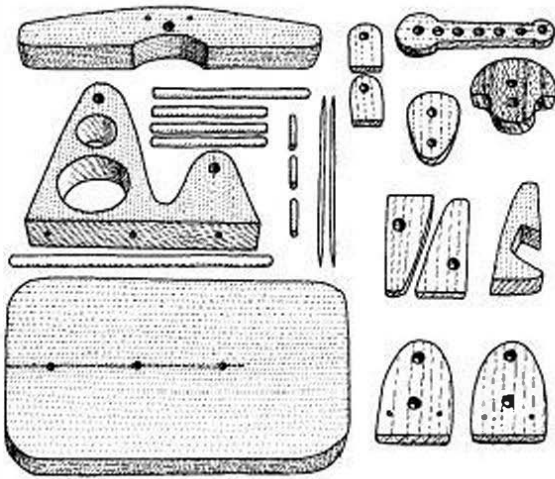

FIGURE 7-12
- 1** When you have completed all the component parts that make up the design, spread them out on the work surface, and check them for potential problems (Fig 7-12).